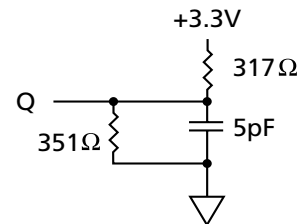

Figure 2
4. The load used for V_{OH}, V_{OL} testing is shown in Figure 2. AC load current is higher than the stated DC values. AC I/O curves are available upon request.
3. This parameter is measured with the output loading shown in Figure 2.